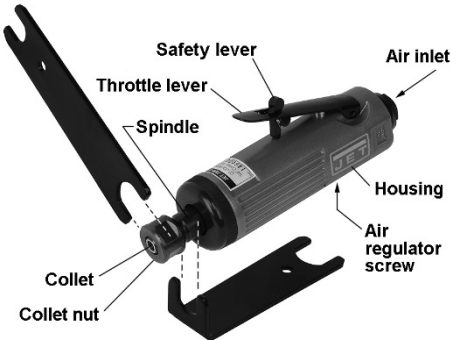

Figure 1 (JAT-401 shown)
1. Loosen collet nut using the two wrenches on the flats of the collet nut and spindle (Figure 1). Keep wrench on spindle stationary while turning wrench on collet nut.
3. Remove protective cap from air inlet (Figure 1). If an in-line oiler is not being used, add 4 or 5 drops of air tool oil (not included) into the air inlet.